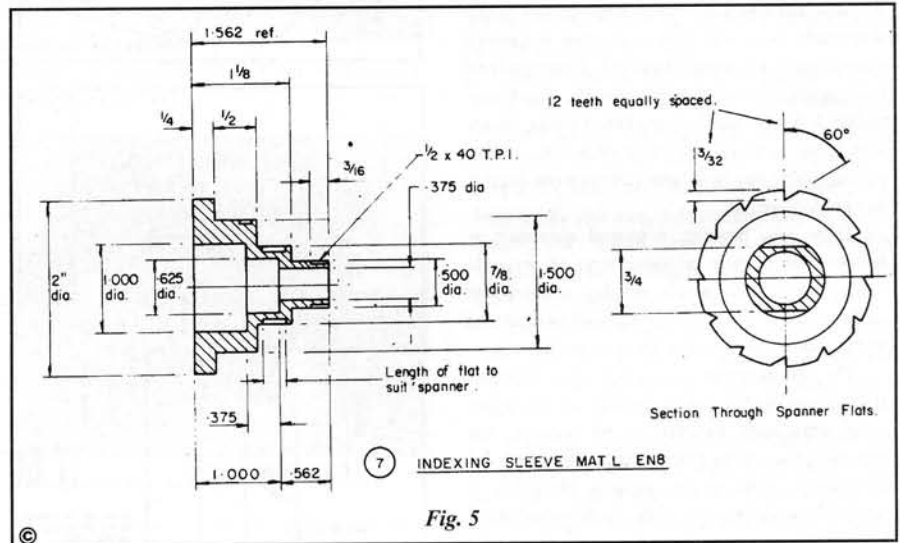

Fig. 5
The finished mandrel can now be used as a gauge for other parts, of which the indexing sleeve (item 7, Fig. 5) is the most important. Fortunately it is all concentric turning but because it, too, is very slender at the cutter end, EN8 or similar material is recommended for its manufacture. Again the 1.000 in and 0.375 in. diameters are most important and should be bored the closest possible running fit on the mandrel. The 0.562 in. length dimension is also important because when the mandrel nut, item 14, is fully tightened up the sleeve must rotate freely but without any end shake. It would be prudent therefore to leave this dimension oversize in the initial machining and trim it down prior to final assembly. Cutting the 12 ratchet teeth and the spanner flats is a